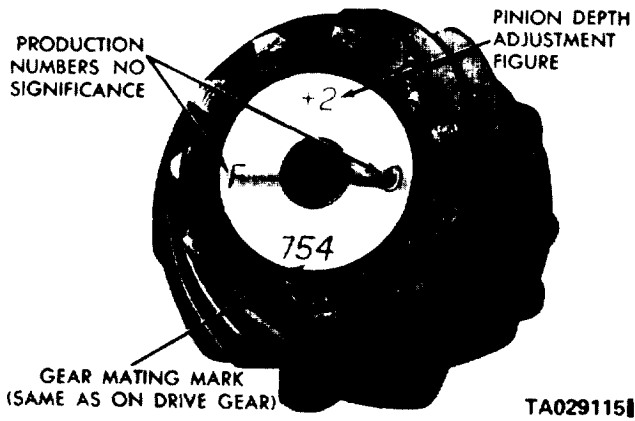

Figure 19-18. Drive Pinion Markings.
(5) To select a shim pack, read the markings on the end of the pinion head as shown in figure 19-18. One number is found on both the drive pinion and the ring, which indicates a matched gear set. Directly opposite this number will be one with a "+" or "-" before it, or the number will be "0." This number must be positively identified before continuing the assembly procedure. Midway between the two sets of numbers described above are numbers and letters which are etched for manufacturing purposes only. But as one of these numbers may be "0," it might be confused with the number needed for the assembly procedure. A rule to follow would be to first examine the shaft end for a positive or negative number. If a positive or negative number is not etched on the pinion head, then the number will be zero (see table 19-1).